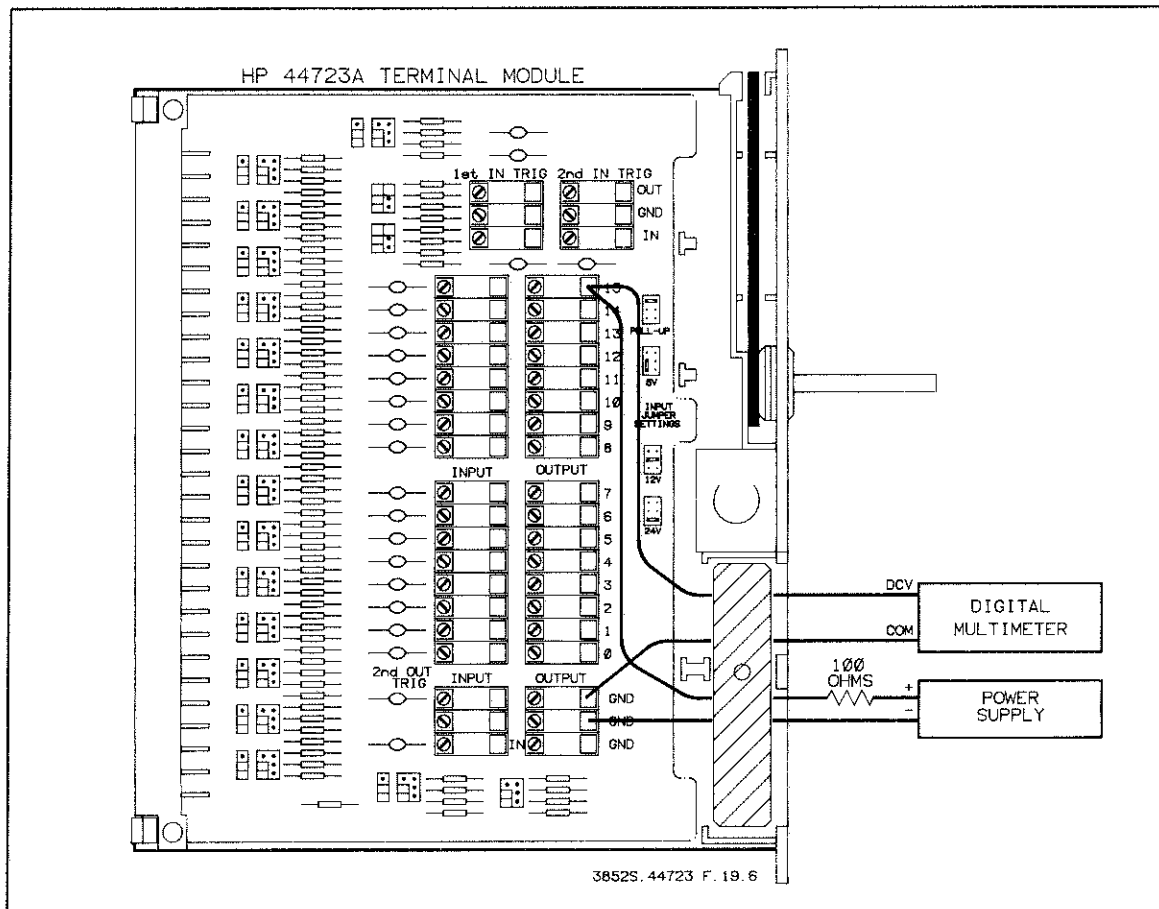

Figure 19-6 TTL Sink Current Test
11. Refer to Figure 19-6. Set a power supply to output +5 V. Connect the negative (-) output to GND on the terminal module. Connect the positive (+) output of the power supply to a 100 Ω , 1/4 W resistor.
12. Connect the other end of the resistor to the high output terminal of channel 15 on the terminal module. The setup is shown in Figure 19-6.